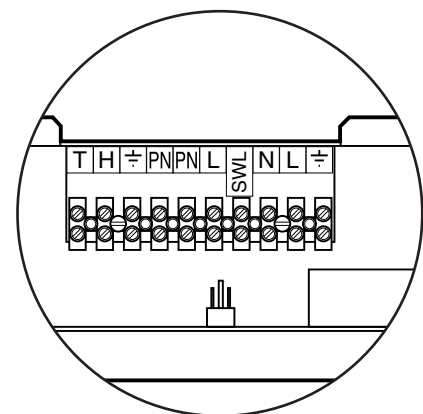

Fig. 17
6. Connect live, neutral, earth, and switched live to L, N, \varnothing & SL of the terminal strip. The pump live, neutral and earth should be connected to PL, PN & \varnothing of the terminal strip (Fig. 17).